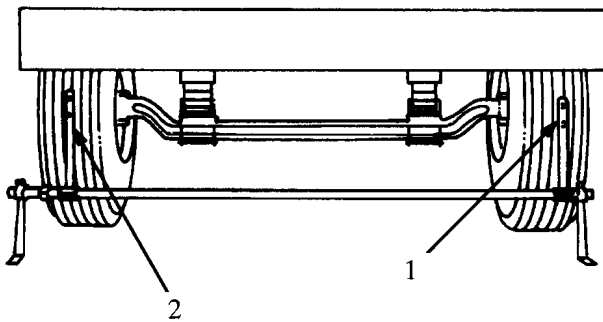

Figure 16 Trammel Bar Against Front of Tires
9. Put the trammel bar against the front of the tires so the pointer end is against the scribed line on the front tire. Loosen and move the sliding scale pointer on the opposite end of the trammel bar so it is against the scribed line on the opposite tire. Lock the scale in place (Figure 16).